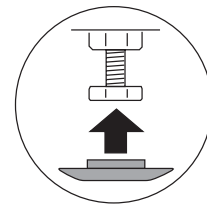

Figure 6.
2. Fit the sliding feet to the machine (see Figure 6).